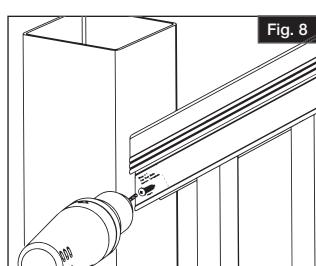

Fig. 8
- Measure up 28 $\frac{1}{8}$ " from top of bottom rail and make a mark. This will be the location of the top of the bracket (Fig. 8).
To locate side screw placement for top rail brackets, (included in bracket packaging) tape side screw template to side of top rail. Using  $\frac{1}{8}$ " drill bit, predrill through marked hole into rail and bracket. Screw provided #10 x 1" pan head screw through hole (Fig. 8).